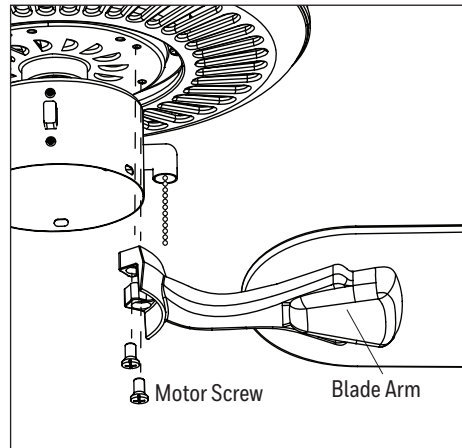

Figure 5.5
- Install the blade arm to the underside of the motor assembly using the ten previously removed motor screws (Figure 5.5).